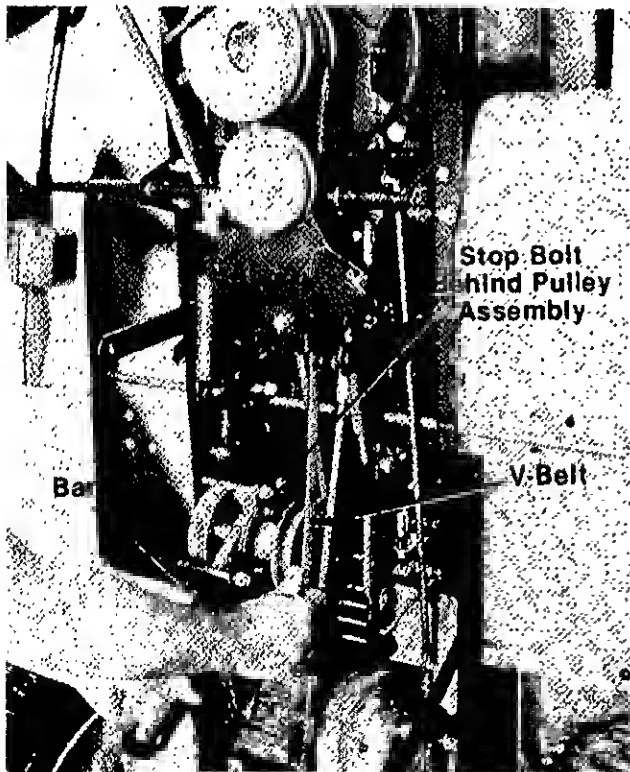

FIGURE 25.
6. Using a bar or large screwdriver, pry the pulley assembly towards the front of the tractor and unhook the belt from the pulley. (See figure 25.)